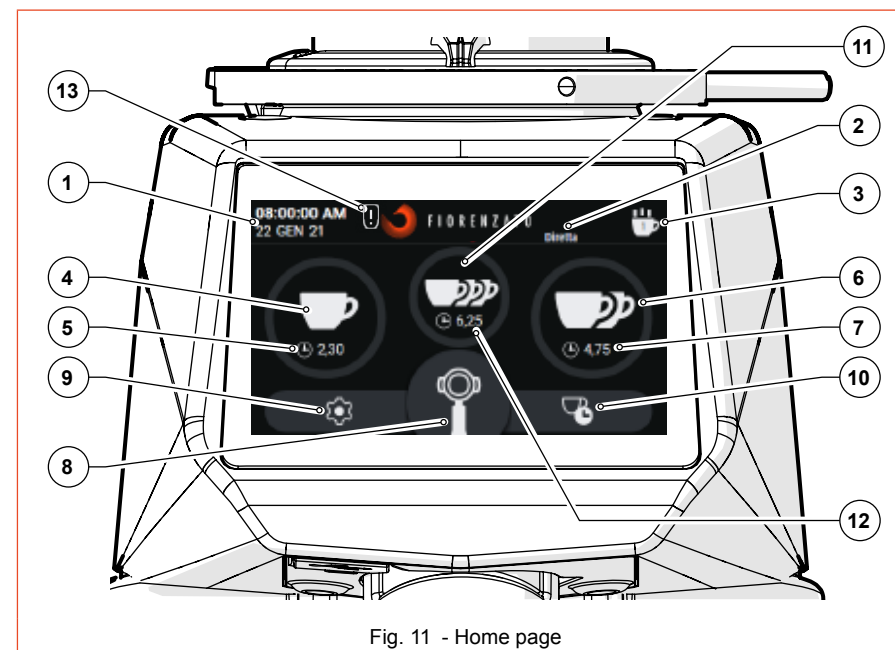

Fig. 11 - Home page
Fig. 11 shows the HOME page with a description of the function buttons and display fields. The HOME page can be customised from the 'Settings menu', therefore the image shown in the figure below may differ from the screen actually displayed on your appliance when it is first switched on.
With reference to Fig. 11, the display fields and function buttons on the HOME page are:
The Settings menu is accessed by pressing the function button , always visible in the bottom left-hand corner of the display (see Fig. 11 Part. 9). Once the command has been given, the display will load the menu, allowing you to select the parameter to be changed and/or the function to be activated/deactivated by simply scrolling down the list of possible options until you find the option you require. The Settings menu contains the following items:
Select the dose required (single, double or triple dose, if enabled) by pressing the relevant function button (see Fig. 11 Part. 4, 6 or 11). The icon of the pressed button starts flashing to indicate that the selection has been made.
Press and hold the '**Manual Grinding**' button (see Fig. 11 Part. 8) to start continuous grinding. The grinding process stops automatically when the button is released.
Press the function button for a single, double or triple dose (see Fig. 11 Part. 4, 6 or 11); after the command has been given, the grinding of the required dose is started immediately.
In this operating mode, the activation microswitch is disabled and all the dose selection buttons (see Fig. 11 Part. 4, 6, 8 and 11) can be activated.
In this operating mode, manual grinding (see Fig. 11 Part. 8) and the single, double and triple dose selection buttons (see Fig. 11 Part. 4, 6 and 11) are disabled.
Select the required dose (single, double or triple, if enabled) by pressing the relevant function button (see Fig. 11 Part. 4, 6 or 11). When the selection has been made, the icon of the pressed button starts to flash to indicate that the selection has been made and remains activated until a different dose is selected. Press the activation microswitch with the filter holder cup (once) to start grinding the selected dose.
In this operating mode, manual grinding also (see Fig. 11 Part. 8) remains enabled.
- At the end of each dispensing process, the statistics counters are updated (see Fig. 11 Part. 3). In the statistics, the continuing grinding process (see Fig. 11 Part. 8) corresponds to an increase of one single unit in the number of dispensing processes. The grinding cycles are stored in the memory even if the 'Show statistics' option is disabled in the Technical Settings menu.
When manual grinding (Fig. 11 Part. 8) is disabled, the relevant function button cannot be selected and is displayed in grey.
It enables (🟢) or disables (🔴) the 'Statistics' function button display on the HOME screen (see Fig. 11 Part. 3).